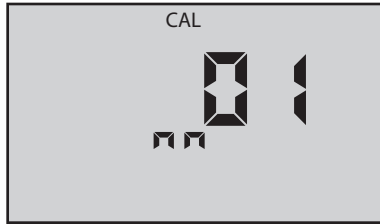

Figure 14
7. Press $\frac{\text{CAL}}{\text{MCLR}}$ to accept the change (new month), (see Figure 14, pg. 40).